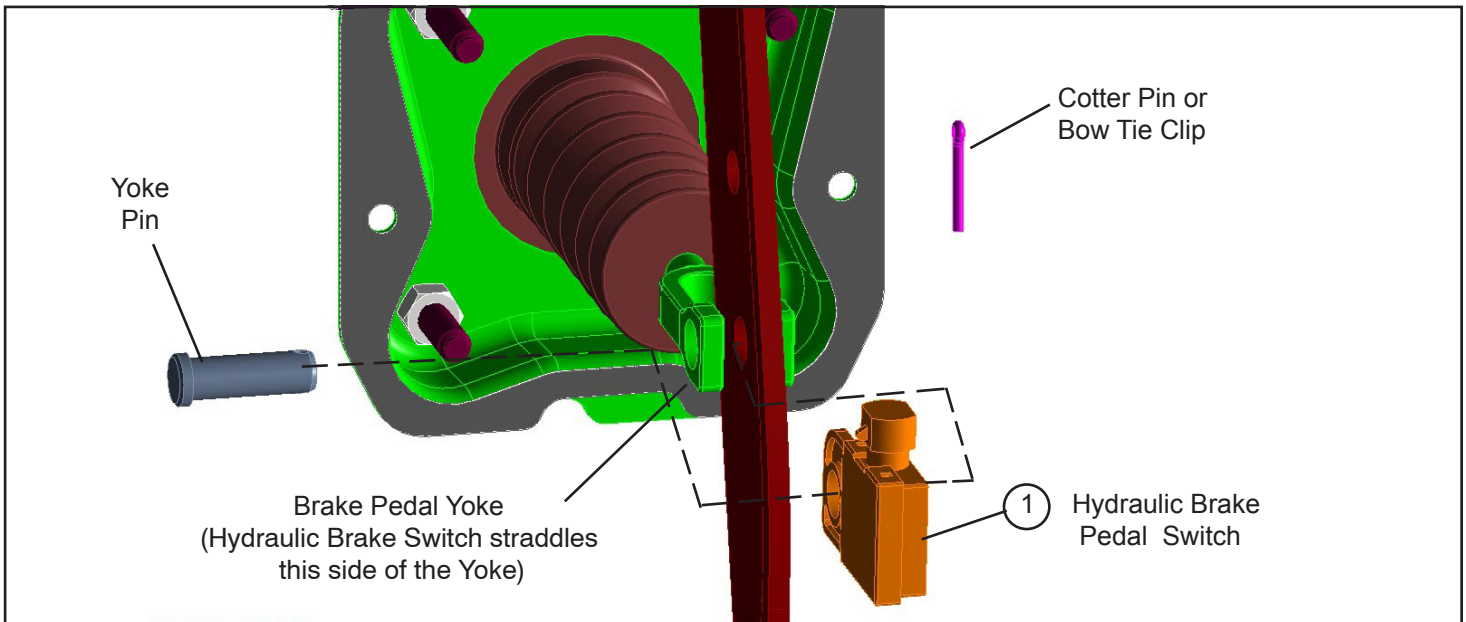

Figure 6 Hydraulic Brake Switch Kit Installation
3. Mount the new Hydro-Max booster (1) and Hydro-Max gasket (5) onto the booster mounting adapter. Secure using the four M10 hex nuts (6), tighten to 300–360 in-lbs.
4. Install the adapter gasket (4) on the mounting adapter. Slide the push rod end of the Hydro-Max brake booster (1) through the opening in the dash panel. While aligning the mounting studs with the holes in the booster mounting adapter and adapter gasket (4), position the yoke so that it straddles the brake pedal.
5. Secure the Hydro-Max (1) to the vehicle dash panel using the four new 8mm flange nuts (3). Tighten to 200–240 in-lbs.
7. Slide the switch into place, straddle the left side of the brake pedal yoke and depress the switch spring. This will allow the yoke pin holes in the yoke and brake pedal switch to align. *Refer to Figure 6.*
10. Connect the master cylinder to the Hydro-Max booster (1) using the hardware previously removed. Tighten to 300–360 in-lbs. **Do not over or under tighten!**
11. Reconnect the inlet and return hoses to the Hydro-Max (1) and torque the inlet hose fitting to 190–360 in-lbs. Do not over tighten the inlet hose, stripping of the aluminum booster housing will result.